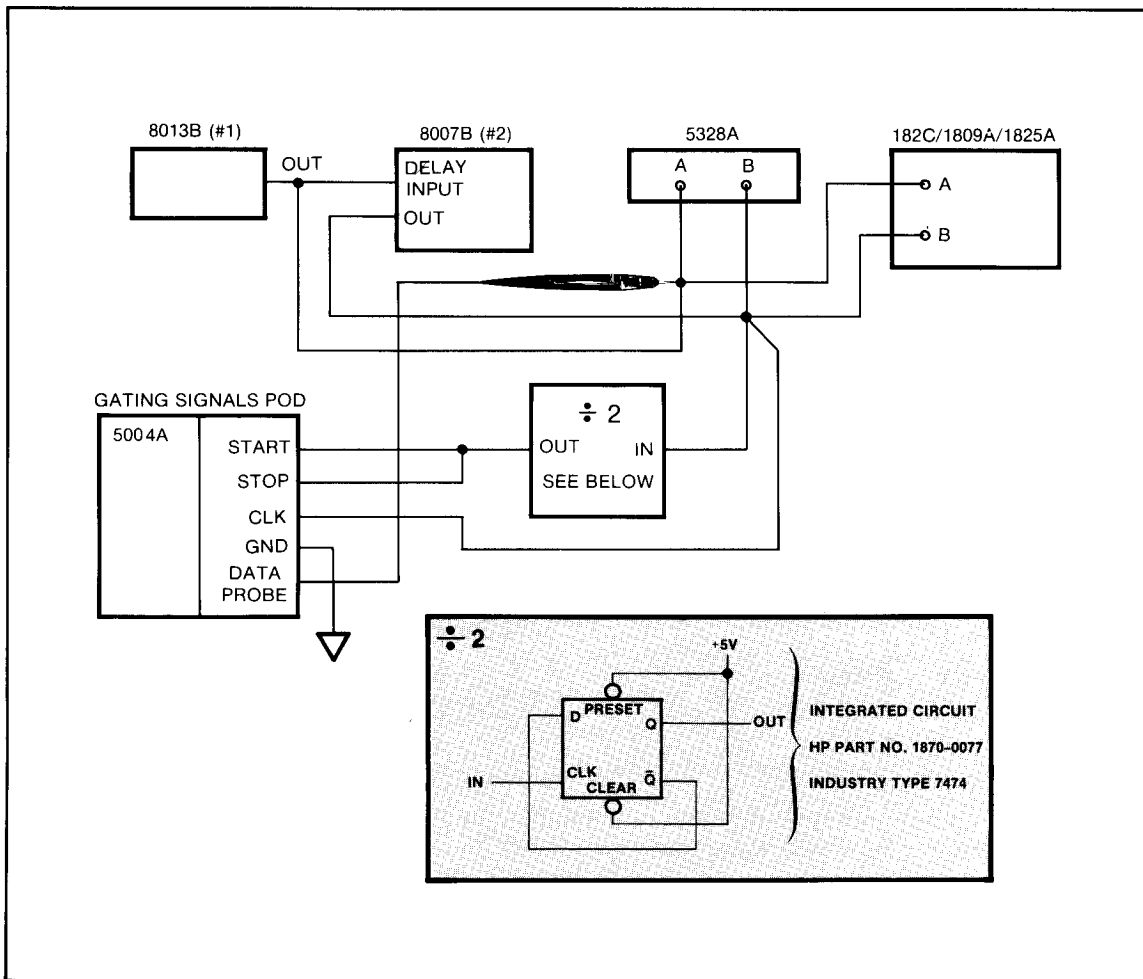

Figure 4-4. Data Probe Setup Time Performance Test
- 4-11. Connect the equipment as shown in *Figure 4-4*. Equipment front panel settings:
4-13. With test equipment connected as in *Figure 4-4*, and settings as in “SETUP TIME PERFORMANCE TEST” proceed as follows: